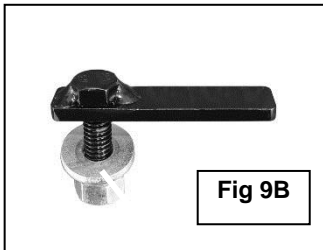
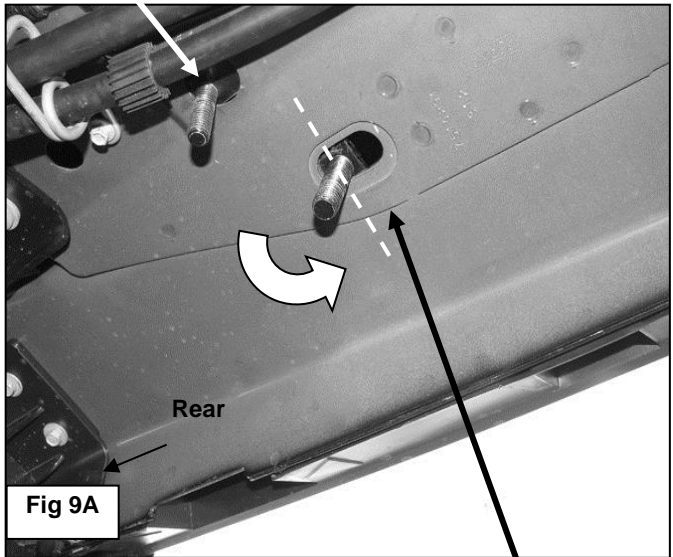

Fig 9B
Fig 9A
- Move toward the rear location. Locate the oval and round holes in the floor panel toward the rear of the vehicle, **(Figure 9A)**. Insert (1) 10mm x 35mm Bolt Plate into the round hole, **(Figure 9B)**. Insert (1) 12mm x 40mm Long Bolt Plate into the oval hole next to the pinch weld, **(Figure 9C)**. Rotate the 12mm Bolt Plate 90-degrees so that the plate is across the oval hole.